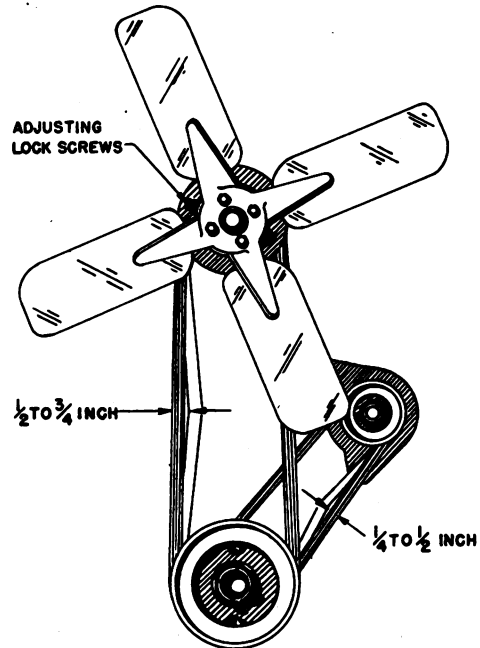

Fig. 17. Correct "V" Belt Tension
(1) Use only high-test winter-grade gasoline and keep the supply tightly covered so that the more volatile portion does not evaporate.
(2) At the end of each day's run, fill the gasoline tank to prevent moisture from collecting in the tank.
(3) Use the correct grade of lubricant in the crankcase and air cleaner. (See paragraph 39).
(4) Drain the cooling system of water at the end of each run, or use one of the recommended antifreeze solutions shown in Fig. 17. To drain the cooling system, open the drain cocks in the lower radiator connection, manifold, and cylinder block (located beneath the carburetor). See that drains are not plugged and that the water drains completely.
(5) During freezing weather, cover the entire radiator, fill with cooling solution, and start engine.
(6) If starting the engine is difficult in cold
When properly adjusted, belts must be slack enough to permit deflection by amount shown in Fig. 17 without appreciable pressure. Do not adjust belts too tightly.